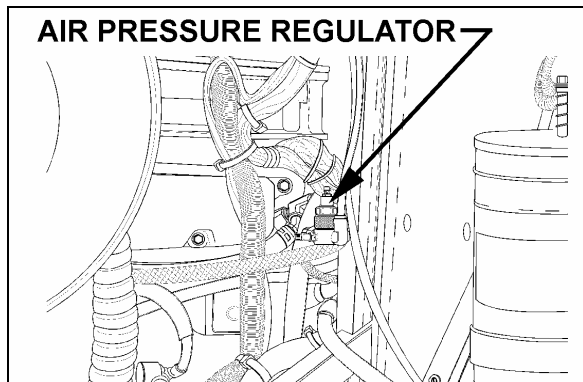

FIGURE 13: AIR PRESSURE REGULATOR (TYPICAL) 07037
10. If the vehicle is equipped with a retarder; install the bracket on the transmission and tighten the bolt to 71-81 Lbf-ft (96-110 Nm). Install the transmission rubber mount between the rubber support and the frame with a bolt, nut and washer. Tighten the nut until the tolerance of  $58 \pm 2$  mm is met (Fig. 13).
21. Adjust the retarder pressure to  $80 \pm 3$  psi with the air pressure regulator. For more information refer to Section 12, "BRAKE AND AIR SYSTEM", under heading "AIR PRESSURE REGULATOR". The air pressure regulator is located at back of engine compartment, on R.H. side (Fig. 13) or in the R.H. side rear service compartment.